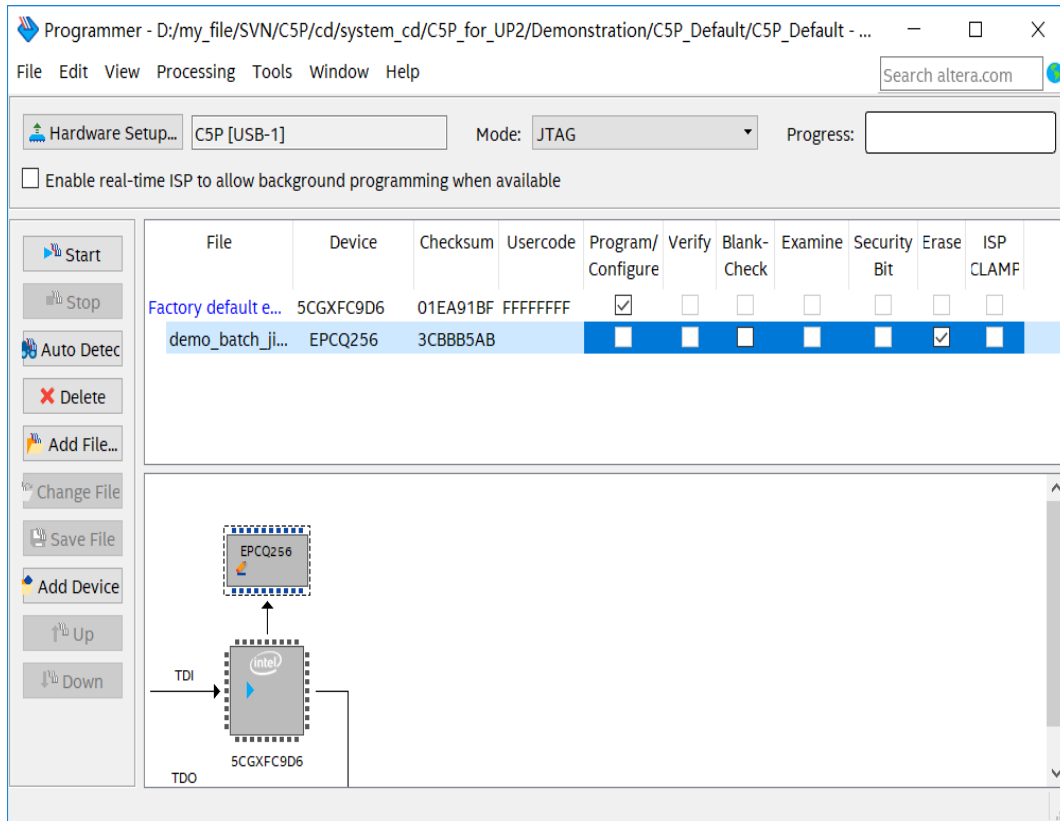

Figure 6-8 Erase the EPCQ device
4. Erase the EPCQ device by clicking the corresponding **Erase** box. A factory default SFL image will be loaded, as shown in **Figure 6-8**.